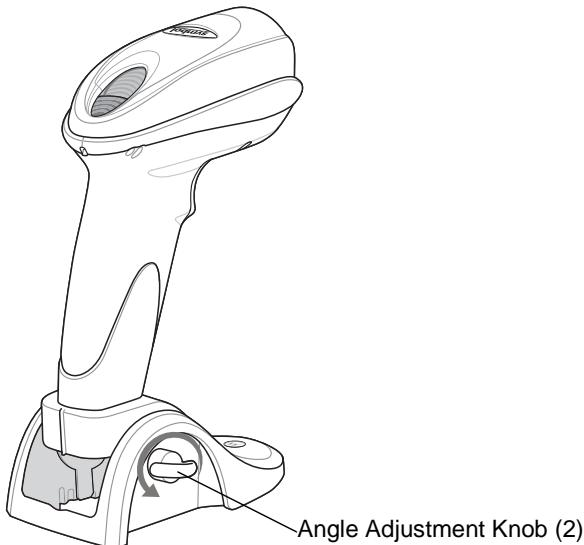

Figure 1-5 Adjust the Scanner for Cable Installation
1. Turn both angle adjustment knobs left to loosen the scanner in the base. See Figure 1-5.